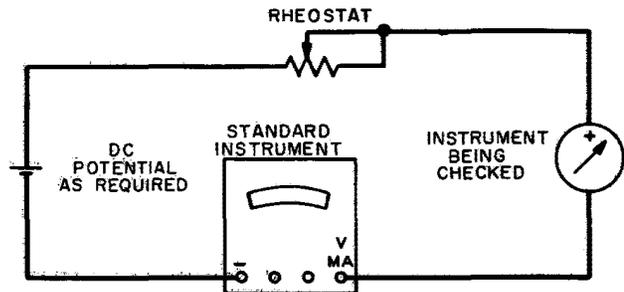

Fig. 11 — Testing Circuit for DC Ammeters Checked at Values Between 3/4 Ampere and 3 Amperes
(52) Remove potentials from the ammeter to be checked and connect it in series with the standard instrument. To do this, remove the connection to the negative terminal of the ammeter and connect it to the negative binding post on the standard instrument. Connect the VOLTS MILLIAMPERES binding post of the standard instrument to the negative terminal of the ammeter. If the leads furnished with the standard instrument are not used for these connections, check the current-carrying capacity of the conductors used to make sure that they will safely carry the necessary current.
(53) Restore current to the ammeter. If the ammeter is not wired in a circuit containing a source of potential, connect it and the standard instrument in the testing circuit Fig. 11.